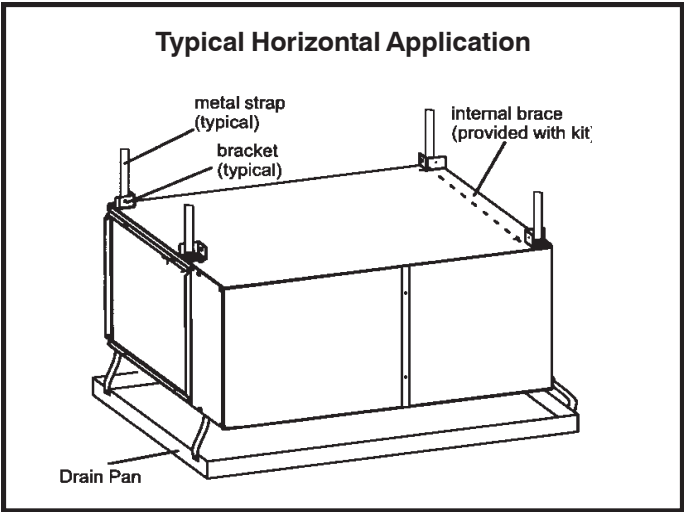
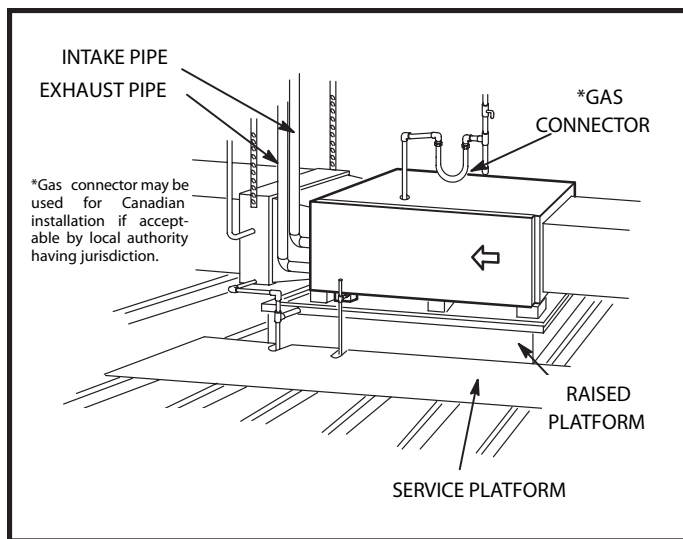

Figure 16
Figure 17
This furnace may be installed in either an attic or a crawl space. Either suspend the furnace from roof rafters or floor joists, as shown in Figure 16, or install the furnace on a platform, as shown in Figure 17. A horizontal suspension kit (51W10) may be ordered from your distributor or use equivalent.
2. Construct a raised wooden frame and cover frame with a plywood sheet. If unit is installed above finished space, fabricate an auxiliary drain pan to be installed under unit. Set unit in drain pan as shown in Figure 17. Leave 8 inches for service clearance below unit for condensate trap.